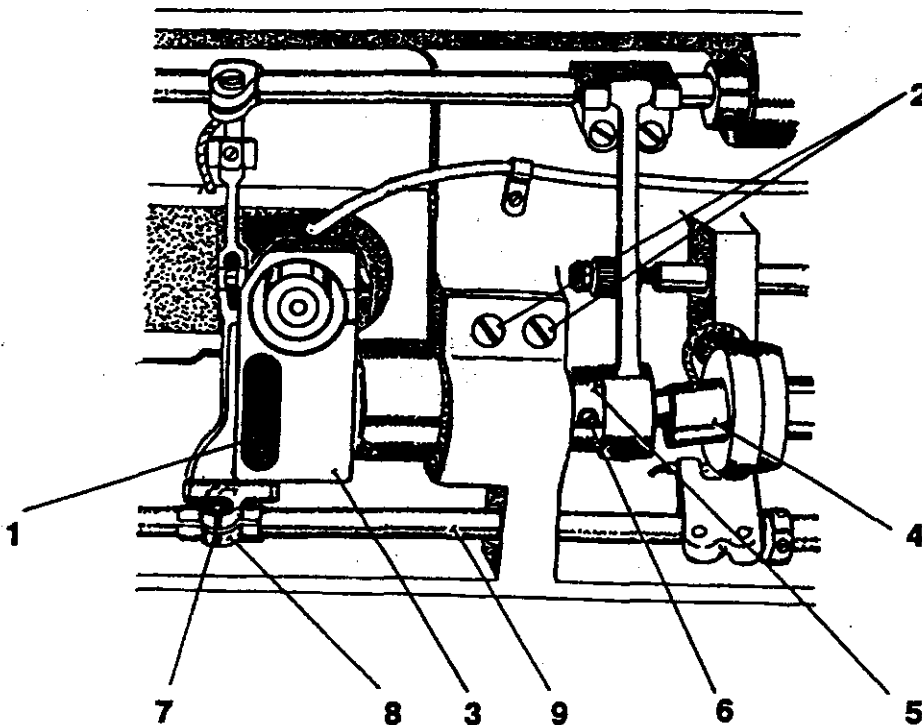
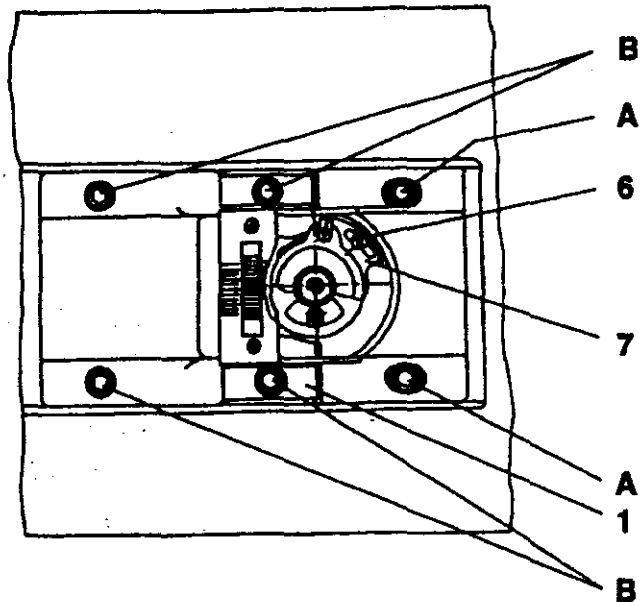

Fig. 11
Fig. 12
### 9. To adjust the hook course (Fig. 11)
### 10. To adjust opening hook (Fig. 12)
11. To adjust the distance between the hook point and the needle (Figs. 11, 12)
Loosen the two screws (2, Fig. 11) in the bed plate that fix the gear box (3). Remove the plug (1) outside the gear box. Then loosen the two screws in the gear box that fix the cog-wheel to the lower shaft and, finally, the two screws (A, Fig. 12) fixing the hook post bed. Then shift the gear box and the post bed of the hook so to obtain the distance not larger than 0.1 mm between the hook point and the needle which should touch lightly the hook guard, and retighten all the screws mentioned above. The plug (1, Fig. 11) is mounted into the gear box last.
**15. To adjust elliptical path of feed-dog movement (Fig. 11)**
**16. To adjust medium post bed (Fig. 12)**